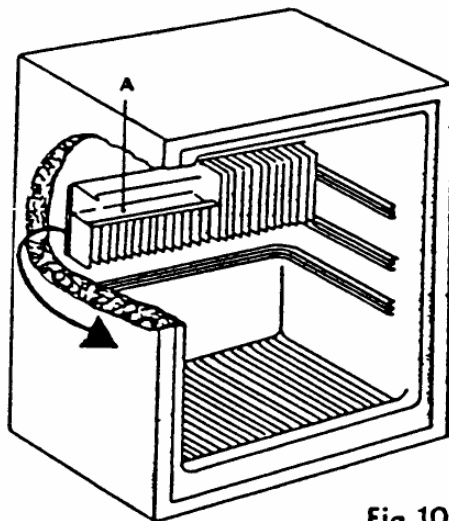

Fig.10
1. Remove ice-tray support (A, Fig. 10) from evaporator by withdrawing in a forward direction.